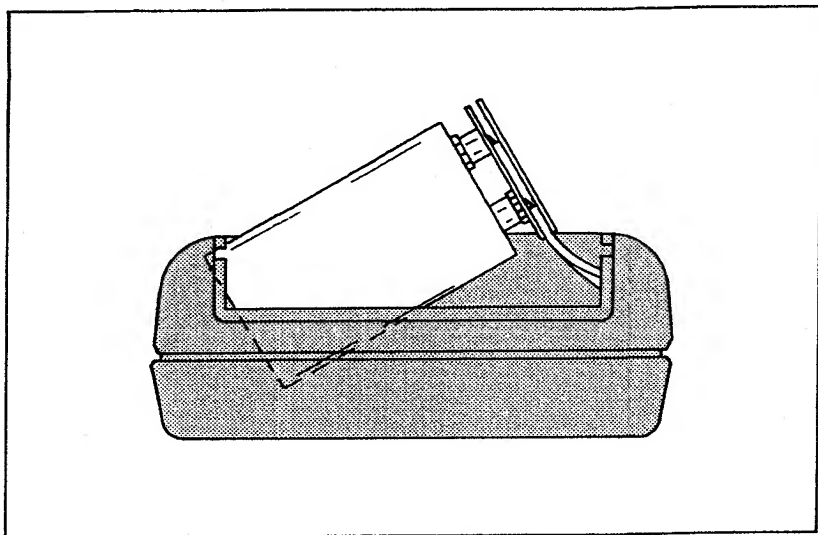

Figure 1-2. Battery Removal
4. Tilt the battery out as shown in Figure 1-2.